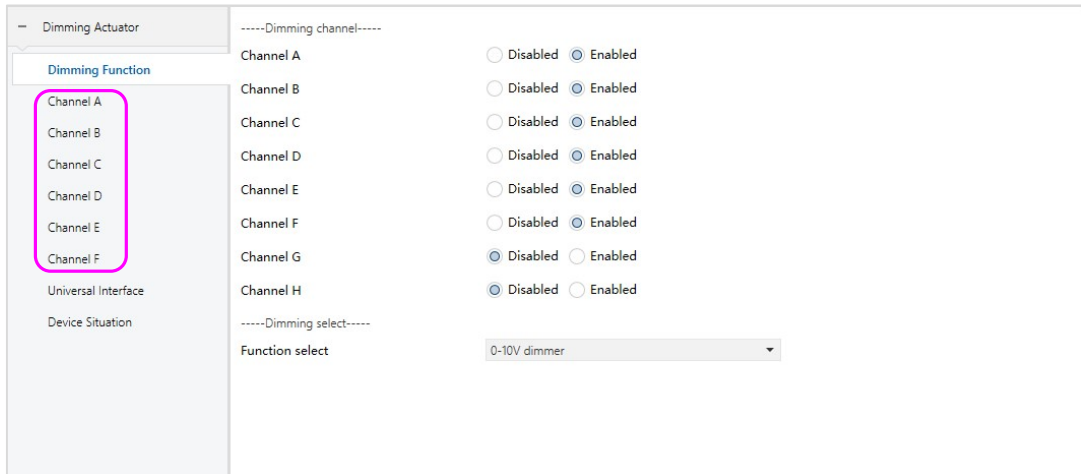

Figure 6.1.2
2) Select "Enable" for Channel X (Channel A~Channel H has a total of 8 circuits. If it is a 4-way dimming actuator, select "Enable" for Channel A-Channel D, and select "Disable" for the other 4 channels; if it is For 6-way dimming actuators, select "Enable" for Channel A—Channel F.) After the setting is completed, the interface is shown in Figure 6.1.2, and the 6 options in the red box appear.